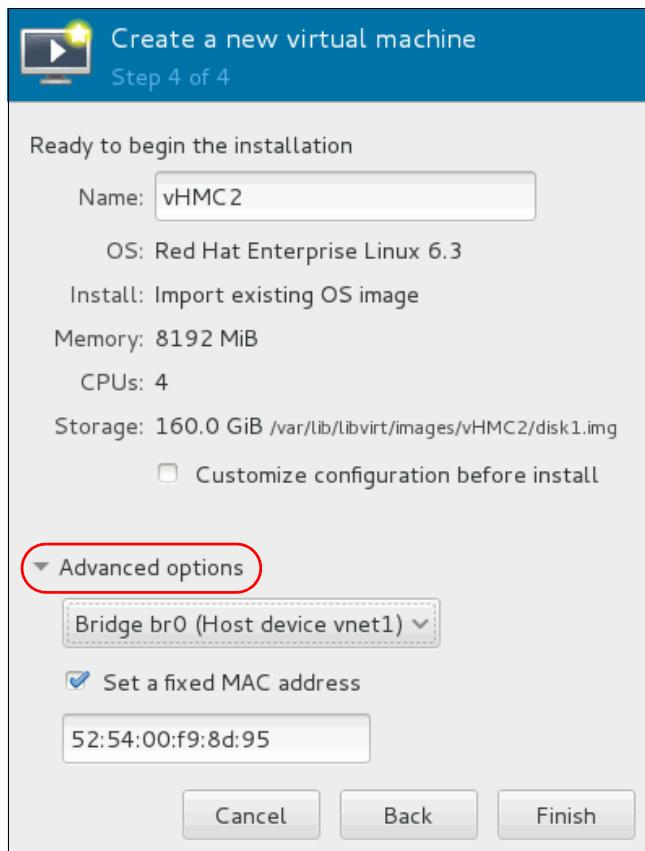

Figure 3-50 Advanced options
10. In the next panel (Figure 3-50), you can either select Customize configuration, in order to add another NIC, or change other parameters. In this example, select **Advanced options**, and then chose the appropriate network bridge. Click **Finish** to create the VM.